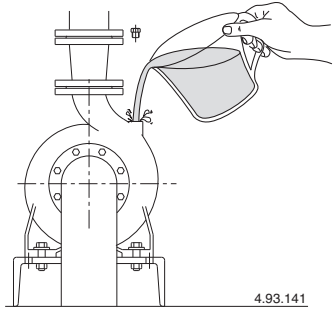

Fig. 8 Filling.
**When the pump is located above the water level** (suction lift operation) fill the suction pipe and the pump through the priming hole Fig. 8.